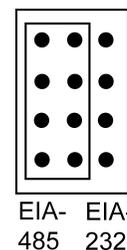

Figure 5. EIA-485/EIA-232 jumper set to EIA-485
- Set the EIA-485/EIA-232 jumper to EIA-485. See Figure 5.
- Set the EIA-485/EIA-232 jumper to EIA-485. See Figure 5 on page 10.